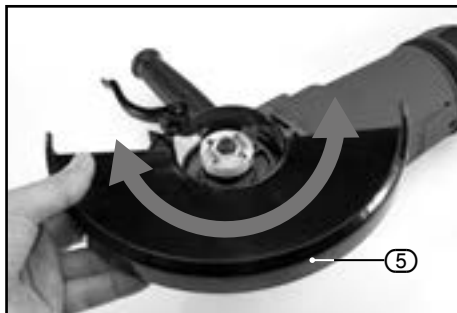

FIG.2
8.2 FITTING THE GUARD – FIGS. 2 – 3
- Position the guard (5) onto the grinder collar with the quick release lever in the open position (FIG.2).